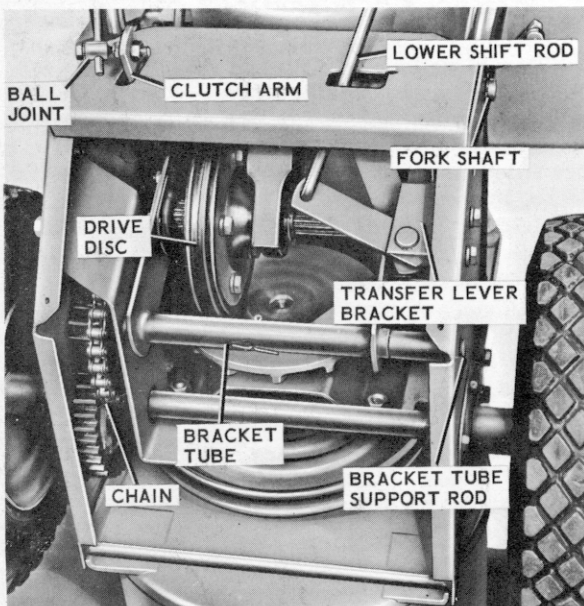

Figure 5
After considerable usage, it may become necessary to replace the drive disc. In order to replace the disc, proceed as follows: See figure 5.
- f. Remove the hex nut securing the ball joint to the clutch arm and remove the ball joint from the arm (figure 5).
- g. Remove the two cap screws and lockwashers securing the transfer lever bracket to the frame (figure 5).
- i. Remove the connector link from the chain and remove the chain (figure 5).
- j. Remove the quick pin from the left side of the fork shaft and pull the fork shaft out of the right side of the frame (figure 5).
- k. Remove the cotter pin from the center of the bracket tube and remove the bracket tube support rod through the right side of the frame (figure 5).